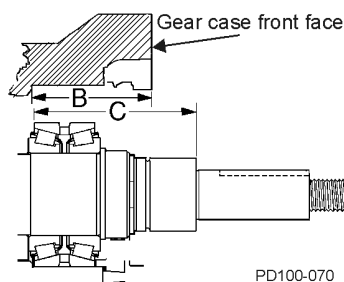
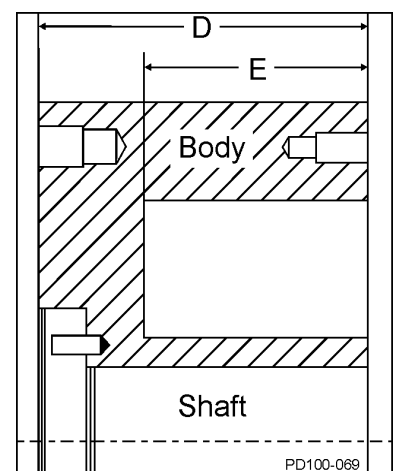

Figure 52 - Measure B and C
Figure 53 - Measure D and E
- If it is necessary to calculate the required shims for replacement shafts, bearings or both, refer to Figure 52 and Figure 53; carry measurements and calculations to three decimal places (i.e. 0.059).
- Measure "B" in the gear case and "C" on the shaft (Figure 52).
- Measure "D" and "E" on the body (Figure 53).
Table 5: Callout table for Figure 52 and Figure 53